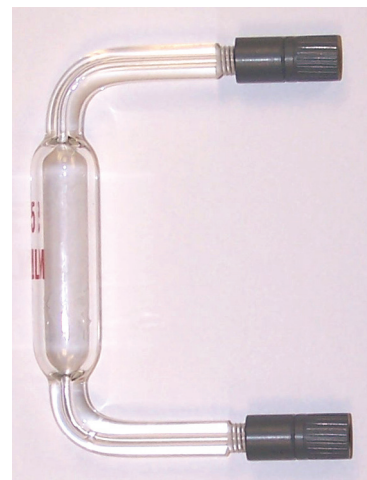

Figure 6.2. 5-mL Sample Loop
2. Remove the sample loop, depicted in Figure 6.2, together with the upper and lower tube assemblies (not shown).
1. Loosen the plastic nuts on both ends of the sample loop, depicted in Figure 6.2.